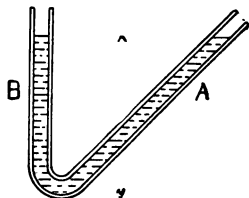

FIG. 286
**297. Meaning of Depth in a Liquid.** In determining the depth it is the *vertical*, not the *slant*, distance from the surface exposed to the air, to the point under consideration, that must be taken. The pressure at the bottom of tube *A* (Fig. 286) is just the same as at the bottom of *B*, though the length of column *A* is greater.